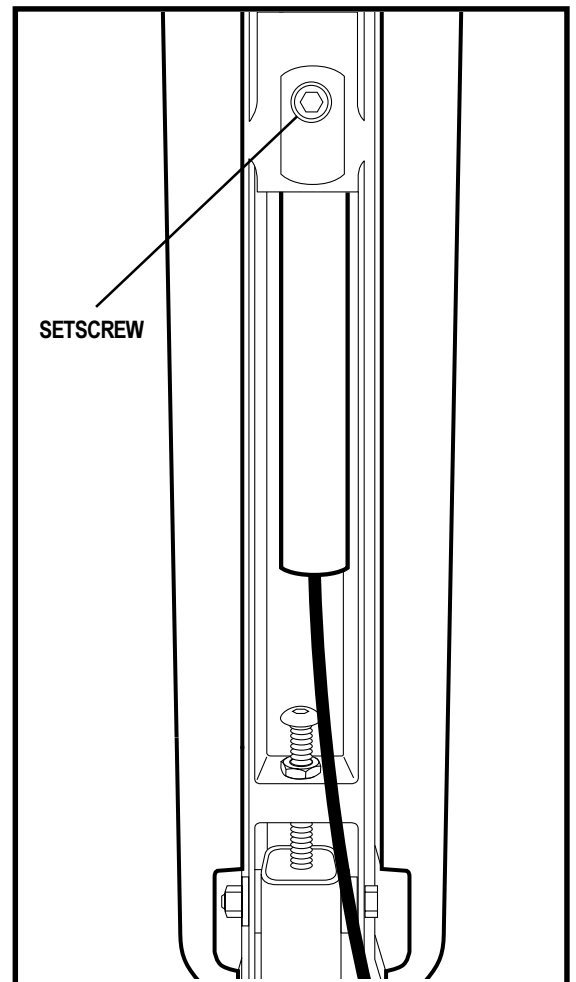

Figure 19. Underside of Armrest
3. Use a hex key to loosen the setscrew. See figure 19.